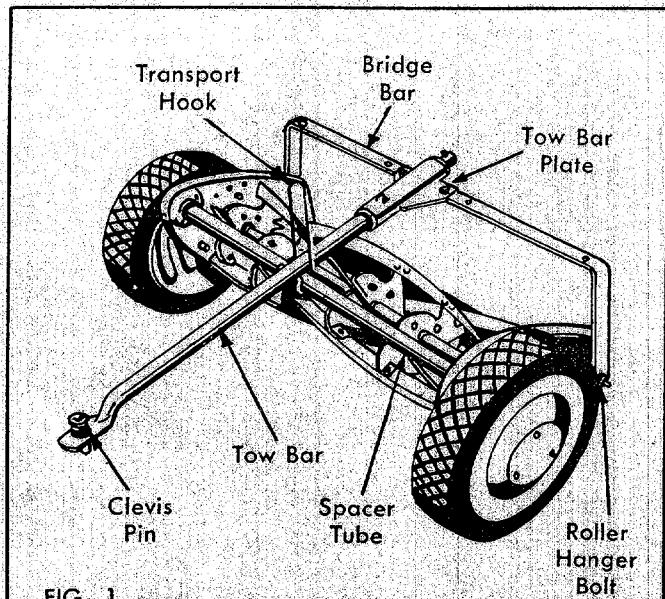
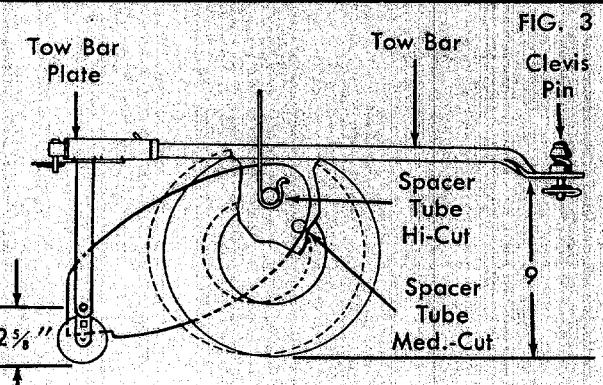

FIG. 1
FIG. 3
2. Insert Tow Bar through Tow Bar Plate. Secure with washer, clevis pin, and cotter. (Fig. 1)
3. Assemble Transport Hook around Spacer Tube (Flat side to rear of mower). Transport Hook must straddle Tow Bar. (Fig. 1 & Fig. 3)